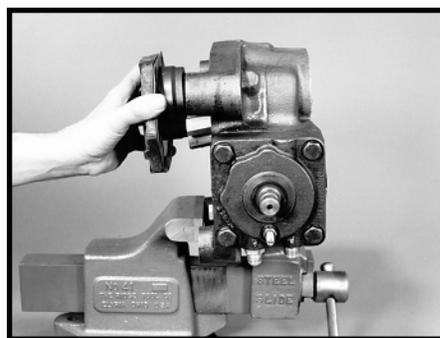
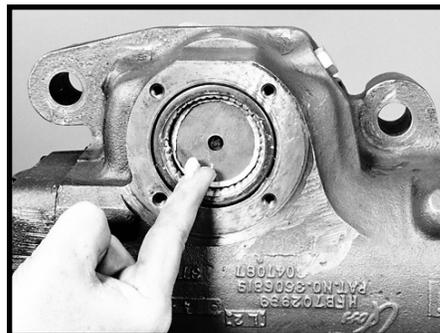
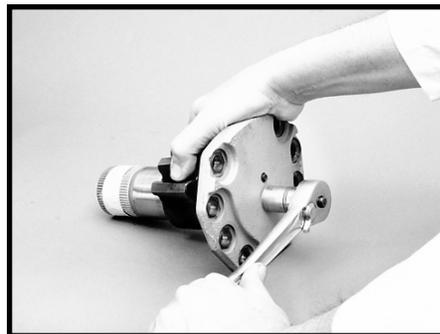

Figure 47
Figure 48
Figure 49
8. Begin to remove the side cover (56) and sector shaft (48) as an assembly. SEE FIGURE 47. Stop removal when the bearing rolls in the housing bearing (20) are half exposed. Coat the bearing rolls with grease. As a means of starting the removal of the side cover and sector shaft assembly, you may use a soft hammer or wooden hammer handle. SEE FIGURE 48.
9. Finish removing the side cover (56) and sector shaft (48) as an assembly. Remove side cover gasket (55) and discard.
10. If the housing (19) bearing has loose rolls, the bearing rolls from the bearing (20) race, count them and put them aside as a set for cleaning, inspecting and reassembly.
11. Remove the sector shaft adjusting screw jam nut (58). SEE FIGURE 49. 3/4 inch socket required.